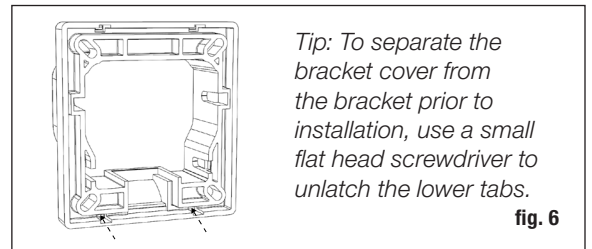

fig. 6
Step 8 Separate the bracket covers from the brackets (fig.6).